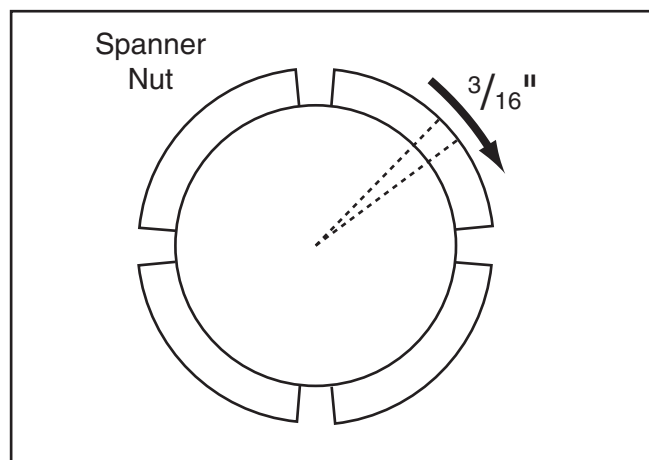

Figure 111. The final distance to rotate the spanner nut along its circumference.
10. When you are confident that you have adjusted the spanner nut until zero spindle end-play and preload exist, tighten the spanner nut an additional $\frac{3}{16}$ " clockwise along its circumference to introduce the correct amount of spindle bearing preload (see **Figure 111**).